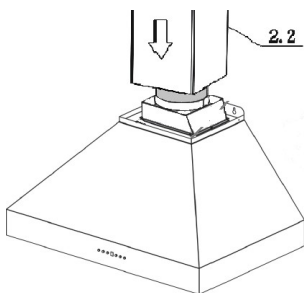

Figure 8.
11. Slide the outer section (2.2) down the outside of the inside section (2.1). Carefully lower the chimney to the recessed area of the hood body top and secure it in the gap of hood body top. *Figure 8 & 9.*